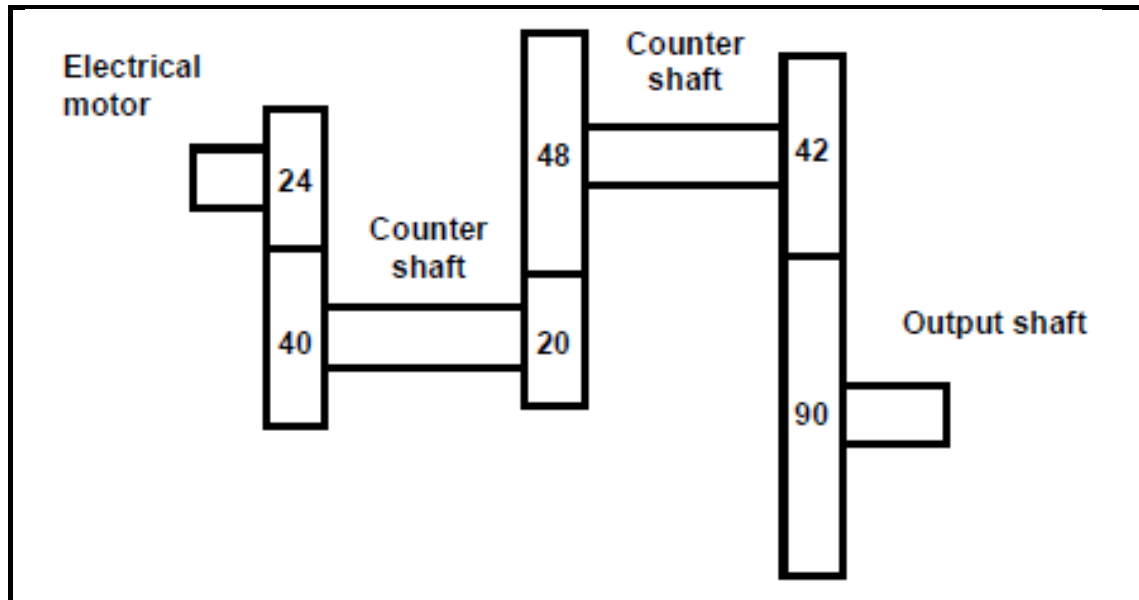

FIGURE 11.6
- 11.6 FIGURE 11.6 shows a gear drive system. A driver gear on the shaft of an electric motor has 24 teeth and meshes with a gear on a counter shaft with 40 teeth. On this counter shaft is another driver gear with 20 teeth that meshes with a gear with 48 teeth on a second counter shaft. The second counter shaft has a driver gear with 42 teeth which drives a gear with 90 teeth on the output shaft.